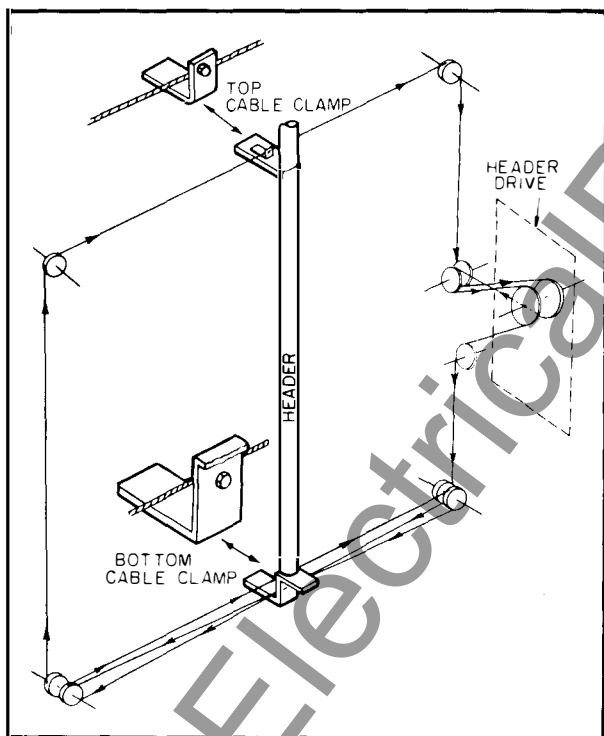

Fig. 15 — Stringing Drive Cable
**HEADER DRIVE CABLE** should be installed as shown in Figure 15. Before stringing the cable, remove the cover from the drive assembly and completely back-off the tension arm screw. Also place the spray header at the center of the cell bank and loosen the cable clamps. Starting at the lower cable clamp, thread the cable around the track pulleys, first through the top clamp and then around the drive mechanism pulleys returning to the bottom clamp. Pull the cable tightly by hand and snub it around the header pipe while the bottom clamp is tightened. Allow at least 6 inch ends (which should be tied around the header) before cutting off surplus cable.